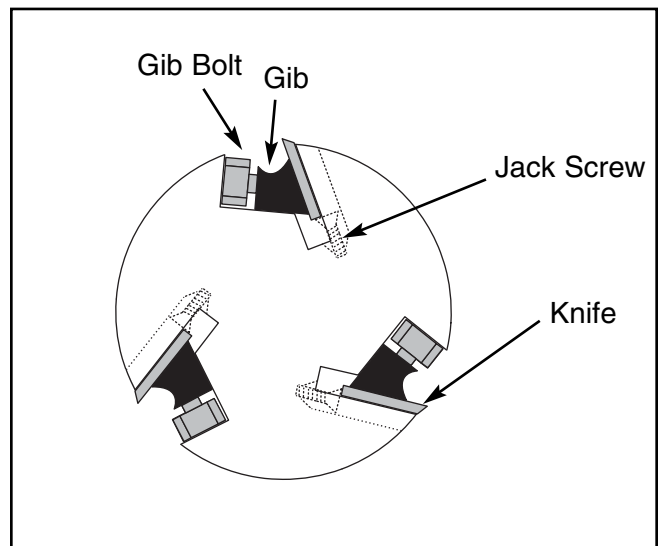

Figure 10. Parts of the cutterhead.
2. Loosen the gib bolts until the knife is loose in the slot. The gib bolts turn clockwise to loosen and counterclockwise to tighten (when facing the head of the bolt). **See Figures 10 and 11.**